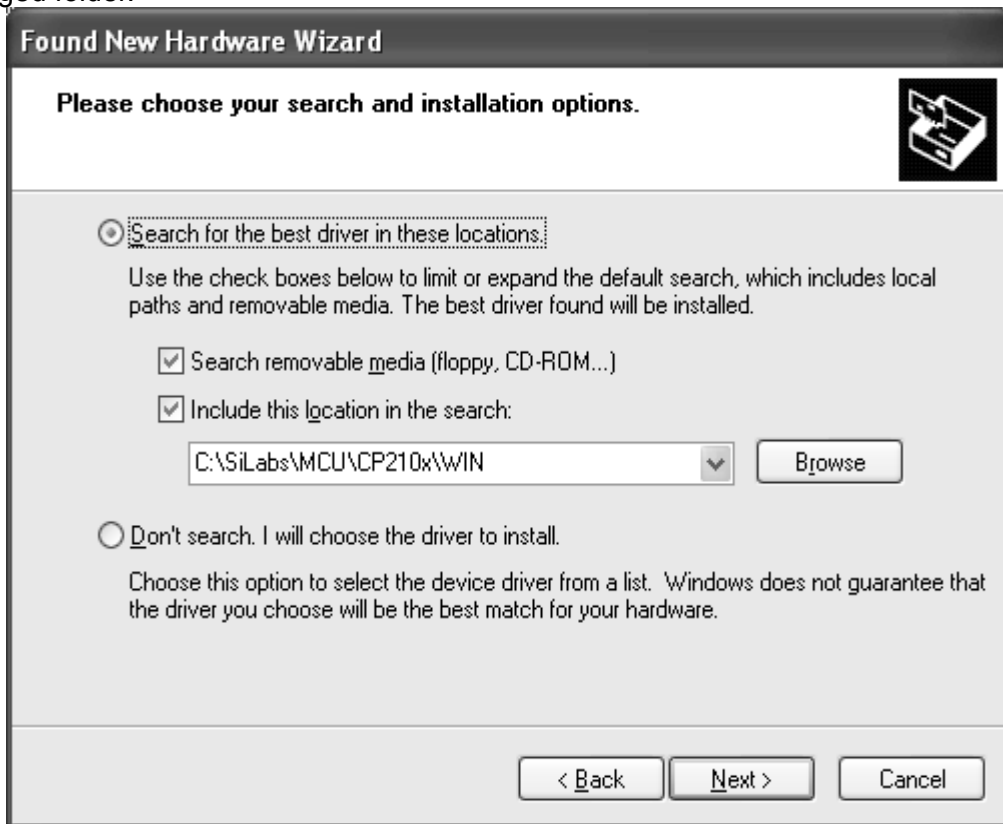

Fig. 34 New Hardware search wizard
- (9) Click **Next** to display the screen shown in Fig.34 Select "**Search for the best driver in these locations**" and input "**C: \SiLabs\MCU\CP210x\WIN**" in the blank directly or click **Browse** to select the folder. If you have installed the driver in a folder different from default setting, select the changed folder.